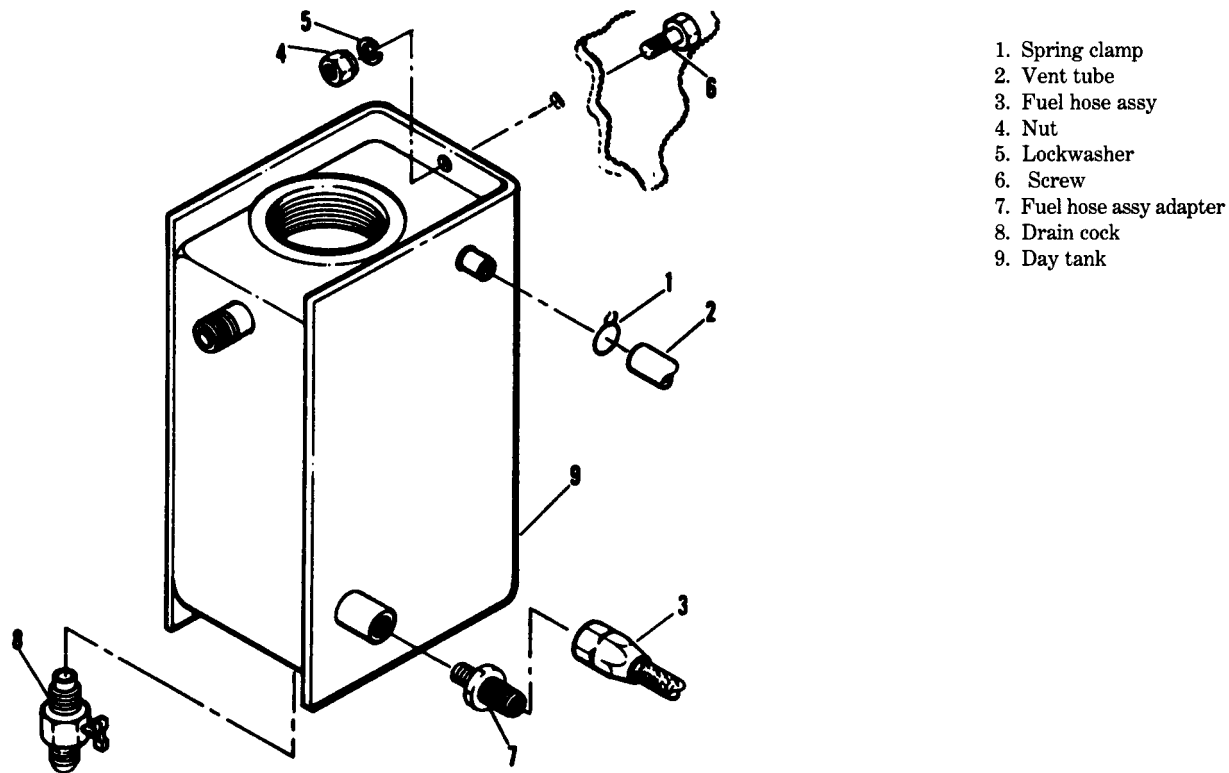

Figure 3-19. Day Tank Assembly, Removal and Installation.
(1) Refer to paragraph 3-25 and drain the day tank.
(2) Refer to paragraph 3-75 and remove fuel solenoid valve and rectifier assembly.
(3) Refer to paragraph 3-74 and remove day tank fuel level and low fuel cutoff switch.
(4) Refer to paragraph 3-84 and remove starting aid ether tank and solenoid valve.
(5) Loosen spring clamp (1, figure 3-19) and remove vent tube (2).
(6) Disconnect fuel hose assembly (3).
(7) Remove nuts (4), lockwashers (5) and screws (6) to remove day tank with assembled parts.